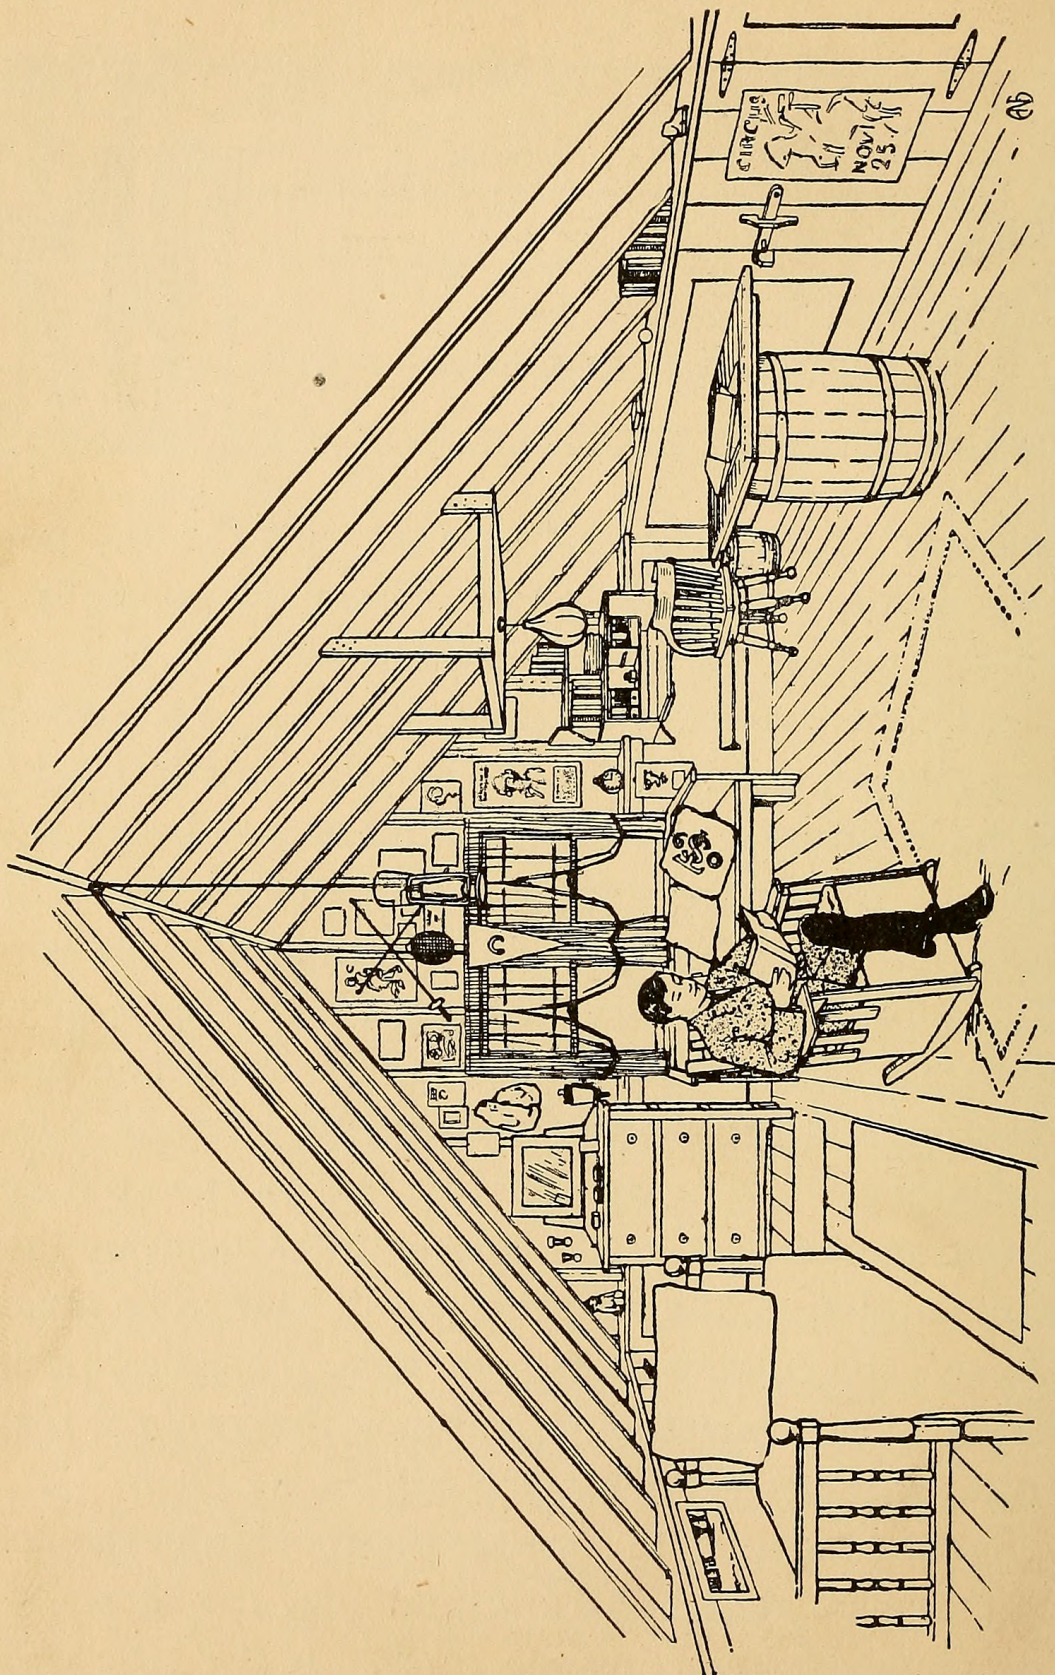
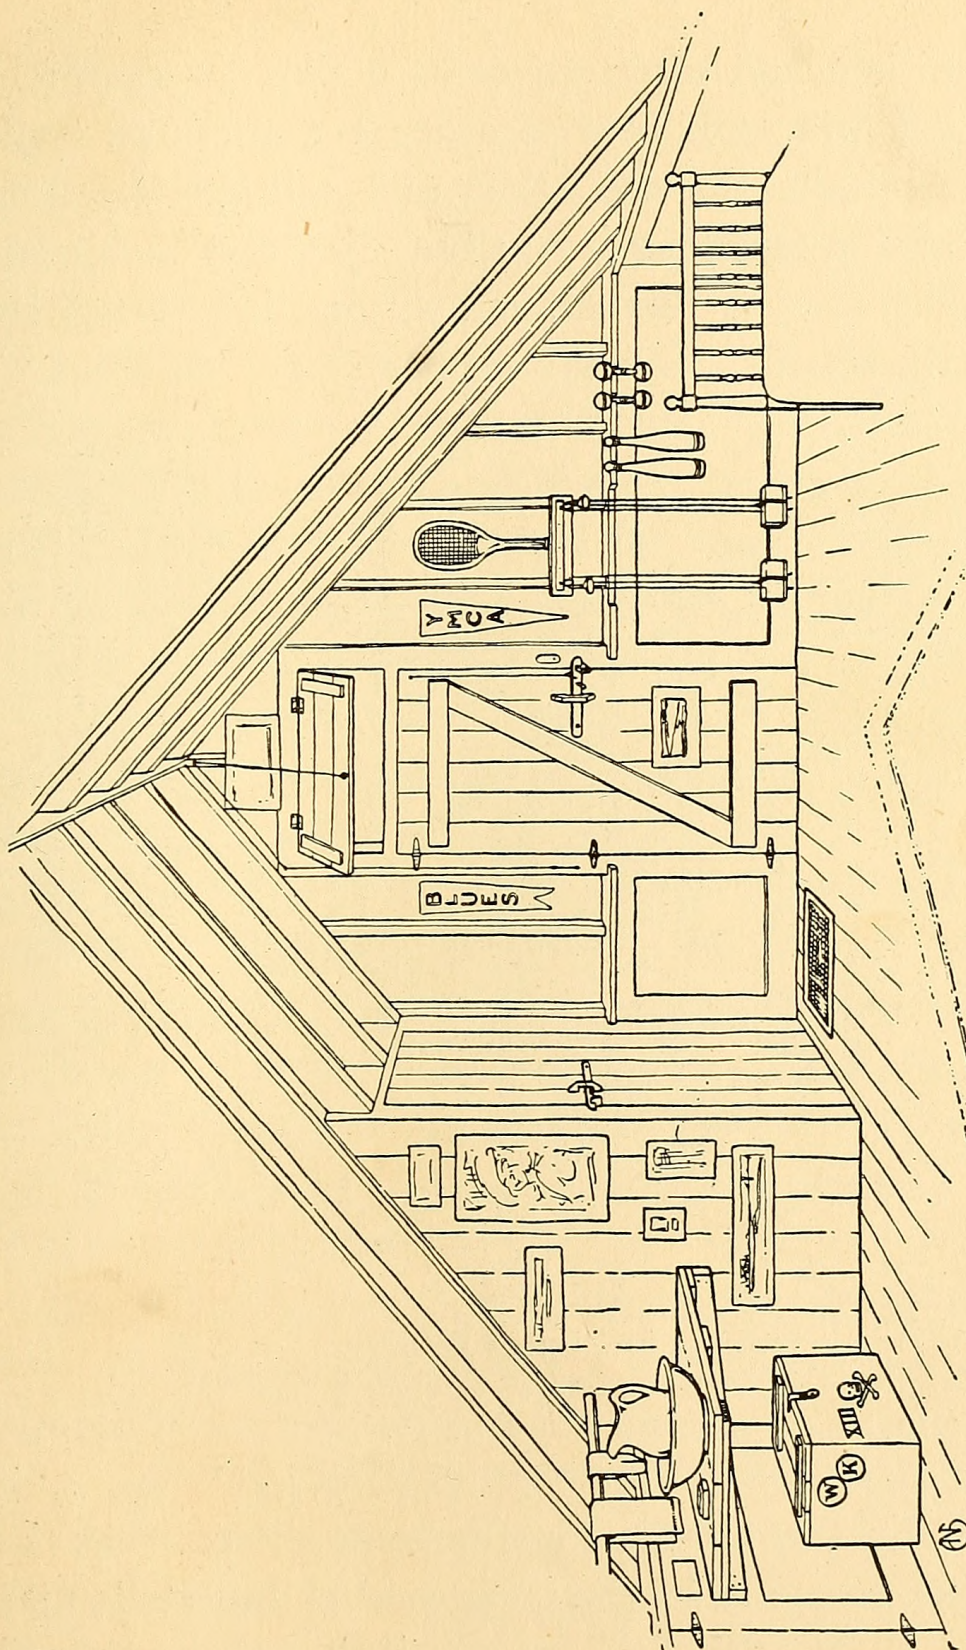
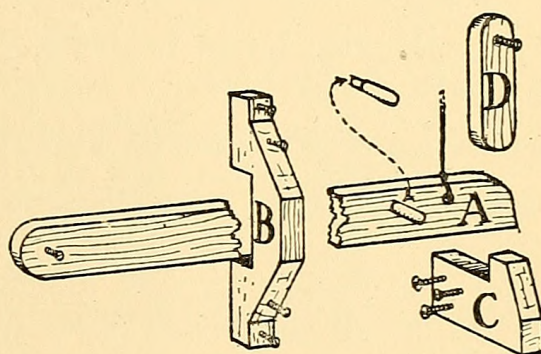

FIG. 170. — A Boy's Room in an Attic.
FIG. 171. — Opposite End of the Attic Room.
FIG. 181. — Details of Door Latch, Guard, Catch, and Button.
THE attic of the average house presents the best possible conditions for fitting up a boy's room, for generally it is a large unfinished space where a boy will have an excellent opportunity to partition off as large a room as he may require, and furnish it to suit his own taste with home-made furniture and all of his knickknack keepsakes. Usually an attic is the storage place for old trunks, antiquated furniture, and household truck, and this could very easily be packed together in such a way that a large enough space for a room would remain at one end. Figures 170 and 171 show how a room can be made in the attic of a house having a gable roof, but as one attic differs from another just as the house differs from another in plan and design, the suggestions will have to be modified to suit the conditions of your attic. Take a run up to the top of your house, boys, and look things over ; then you can tell better just what you can do.
are unfinished and of frame construction, as shown in Fig. 170, it will look best to space the partition studs directly opposite the wall studs and nail the boarding on the outside face (Fig. 171); but they may be spaced 3 feet apart, to save lumber, and yet be close enough to support the boards.
**A Large Clothes Closet** should be built in one corner of the room as shown in Figs. 171 and 178, and the inside should be fitted up with shelves, hooks, and coat and trousers hangers. A piece of broom-handle or curtain-pole may be fastened across the rafters upon which to hook coat hangers, hooks may be made out of spools (Fig. 179), and the
shown in Figs. 171 and 178. To make a nicely finished entrance to the room, conceal the studding around the doorway with *jamb* and *head* boards, and nail a board *trim* around the opening as shown in Figs. 171 and 174. In the plan of the *door jamb* (Fig. 175), the stud on one side of the opening is shown at *A*, the finished *jamb* board at *B*, and the inside and outside *casings* or *trim* at *C*; the door is shown hinged in place at *D*, and the *stop* strip shown at *E* is nailed around the inside of the opening for the door to strike against. Hinge the entrance door and the locker doors on to the casings with strap-hinges (Fig. 171).
The **Entrance-door Transom** is made of boards battened together (Fig. 171) and is hinged at the top to the trim. It is operated by means of a cord which is run from a screw-eye in the bottom of the transom up over a small pulley in the ceiling, and from that down to a nail in the wall.
Figure 181 shows the details for
An **Old-fashioned Cabin Latch** which will do very well for the doors. By looking at Fig. 171, you will see that the *latch A* (Fig. 181) is screwed at one end to the door, the *guard B* is screwed in place over *A*, and the *catch C* is set into the jamb board. The entrance door should have a *latch-string* with which to open it from the outside (Figs. 174 and 181) and also a wooden *button D*, (Fig. 181) with which to lock it on the inside. Make a handle for the outside of the door similar to guard *B* (Figs. 174 and 181).
**A Wash-stand** in a corner, as shown in Fig. 171, to
handle is snapped into it, will pull down to within easy reach of the floor. The weight of the brick must be just enough to counterbalance the lantern; if too heavy, break off a piece. Figure 170 shows the lamp pushed up out of the way.
**A Pirate Chest** such as is shown in Fig. 171 and
**A Window Seat** as shown in Fig. 170. Ask your mother to make a few sofa pillows for the seat.